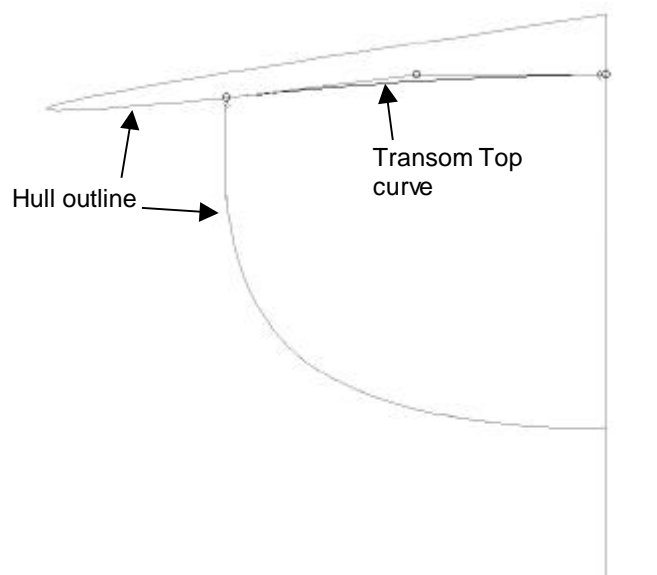

Figure 4-4: Transom Top curve
6. In *Front* view, edit *Transom Top* to the desired shape of the transom at deck level. You should position the middle control point at the same height as the vertex at centreline in order to maintain tangency across the centreline. (See Figure 4-4.)